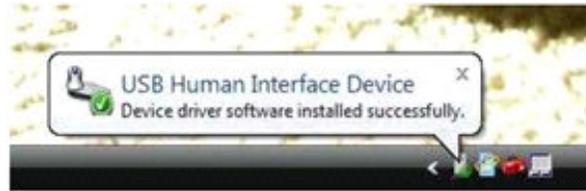

Figure 3-5. Confirmation of USB2ANY Driver Installation
Figure 3-5 shows the typical response to connecting the USB2ANY Interface Adapter board to a USB port for the first time. Typically, the PC responds with a *Found New Hardware, USB Device* pop-up dialog window. The pop-up window then changes to *Found New Hardware, USB Human Interface Device*. This pop-up indicates that the device is ready to be used. The USB2ANY Interface Adapter uses the human interface device drivers that are included in the Windows® operating system (OS).